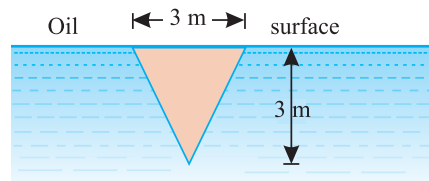

Fig. 35.15.
1. An isosceles triangular plate of base 3 metres and altitude 3 metres is immersed vertically in an oil of specific gravity 0.8 as shown in Fig. 35.15.